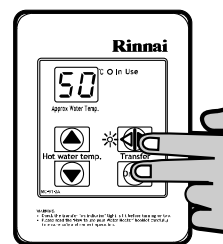

Fig. 7
**STEP 1:** For the controller in the KITCHEN only, press and hold the 'Transfer' and 'On / Off' buttons simultaneously (Fig. 7) until a 'beep' is heard (approximately 5 seconds).